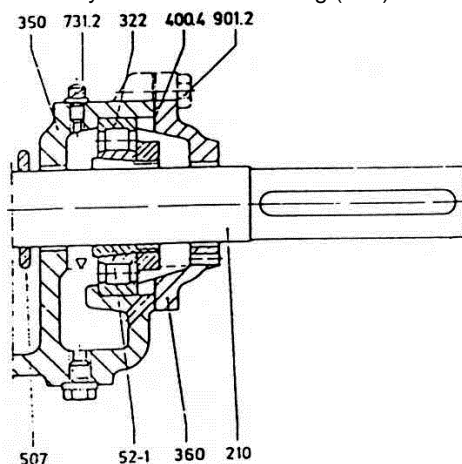

Fig. 79 - Bearing construction pump sizes 40 to 125
1. Mount thrower (507) on shaft (210).
2. If necessary, insert outer race of cylindrical roller bearing (322) in the bearing housing (see Fig. 79).